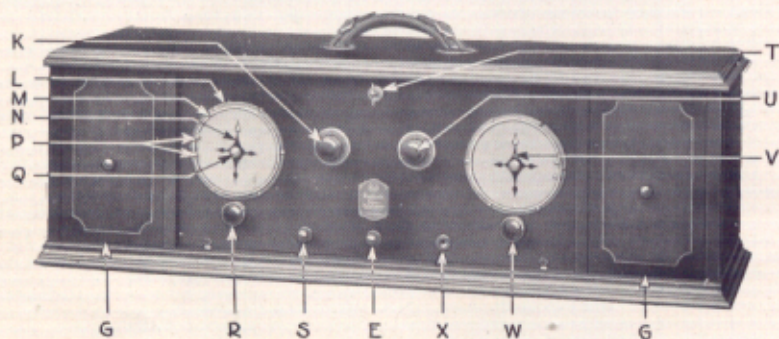

Fig. 3. Front View of Control Panel
Filaments. Pull out the filament switch E. Turn the "VOLUME CONTROL" knob U (Fig. 3) clockwise to 100. Turn the "BATTERY SETTING" knob K clockwise to the arrow mark on the dial. **WITH FRESH BATTERIES, DO NOT TURN THE POINTER PAST THE ARROW MARK. THIS IS EXTREMELY IMPORTANT** as you will otherwise shorten the useful life of the Radiotrons and batteries, and little will be gained in ease of tuning, signal strength or otherwise. As the batteries grow older with use, this setting should be gradually advanced from week to week toward "100." Connect the loud speaker to the telephone plug, and put the plug into the telephone jack X. Push in the amplifier switch S, which gives the full amplification of the receiver.
- (1) Use a larger loop, such as Radiola Loop Antenna, Model AG-814, which gives the set the advantage of directional effect without the necessity of turning the complete receiver. Greater signal strength will also be obtained in this manner. Connect the loop between terminals 2 and 4, disconnecting the metal strap usually connected between terminals 2 and 3, on the terminal board, in the rear of the set.
- (2) Use an indoor antenna connected to terminal 1. Do not tune the antenna. The antenna may be 20 to 30 feet long and may be located wherever convenient, say under the carpet or around the picture moulding. Leave jumper J connected between terminals 2 and 3.
- (3) Use a ground wire connected to terminal 1. Leave jumper J connected between terminals 2 and 3. In connection with these schemes, it will usually be found that if the set is located on the ground floor of the home, method (2) will be the better of the two; while if the set is on an upper floor, method (3) will be better. It is recommended that no attempts be made to tune the antenna connected to the set.
- (4) Head telephones may be plugged into the jack X (Fig. 3), if desired.